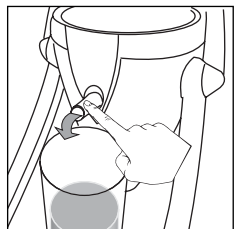

Fig.4
- Place a glass under the non-drip spout and move the spout downwards (fig. 4).